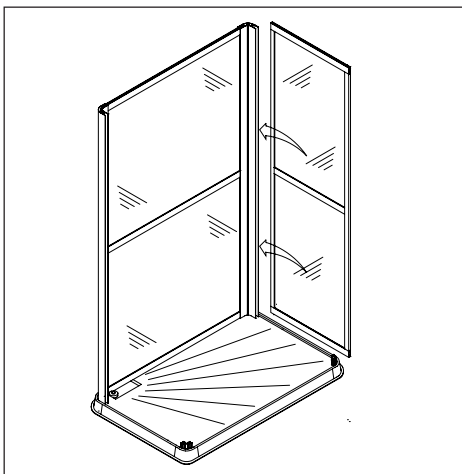

Fig 4.4
5. Fig 4.4 Locate the side panel (5) into the channel in the corner post.